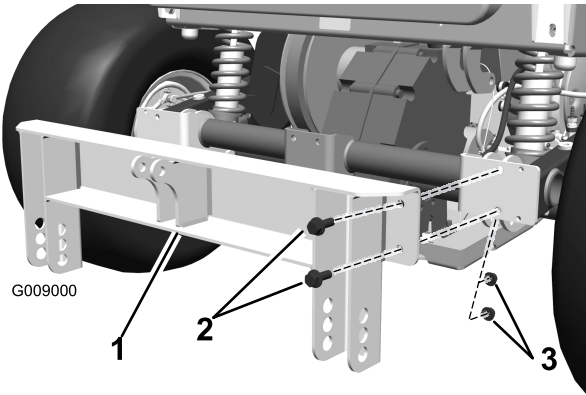

Figure 1
1. Align the holes in the rear lift frame with the holes in the rear and bottom of the vehicle swing arm frame as shown in Figure 1.
2. Secure the rear lift frame to the rear of the vehicle swing arm frame with four bolts (3/8 x 1 inch) and four flange nuts (3/8 inch) (Figure 1).
- Secure the rear lift frame to the rear of the vehicle swing arm frame with four bolts (3/8 x 1 inch) and four flange nuts (3/8 inch) (Figure 1).